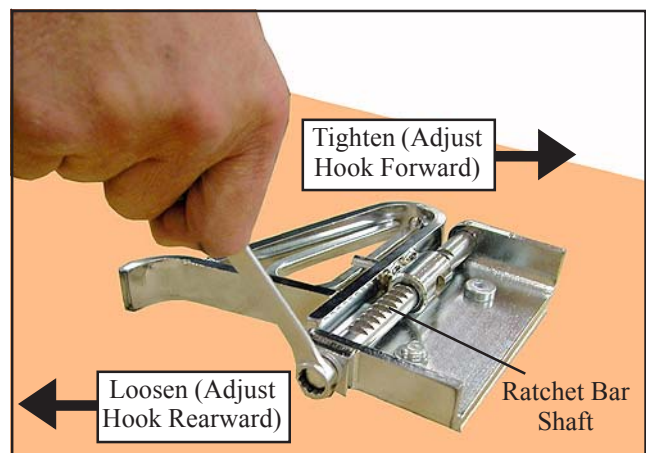

Figure 4 - Adjusting the Shaft
3. At the front of the ratchet bar shaft, use a 7/16" socket or box wrench to **tighten** the hex-head cap screw and shaft, Figure 4. (To tighten: turn clockwise).
2. At the front of the ratchet bar shaft, use a 7/16" socket or box wrench to **loosen** the hex-head cap screw and shaft, Figure 4. (To loosen: turn counter-clockwise).